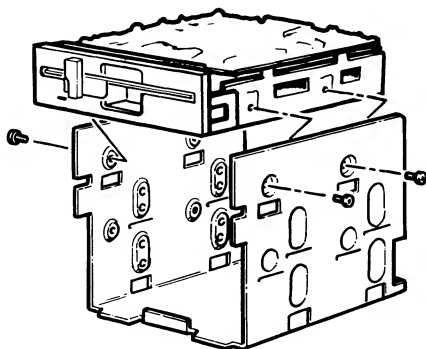

Figure 5-16. Installing the 5.25-Inch Floppy Disk Drive
7. Refer to Figure 5-16 and place the disk drive into the left drive bracket. Position the drive so the screw holes on the drive line up with the screw holes on the bracket. Secure the disk drive with the four screws that were packed with the drive.